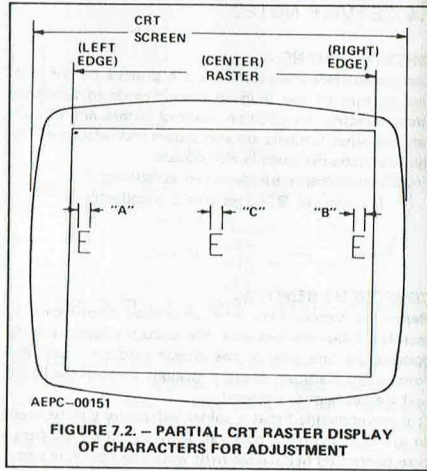

FIGURE 7.2. — PARTIAL CRT RASTER DISPLAY OF CHARACTERS FOR ADJUSTMENT
Step 6. (Refer to Figure 7.2.) Observe the extreme left-hand edge characters (designated "A" in Figure 7.2). Its width should be equal to the width of the right-hand edge characters (designated "B" in Figure 7.2). If character "A" is wider than character "B", the copper sleeve is extending out too far. If "A" is narrower than "B", the copper sleeve should be pulled out further. In any event, the copper sleeve may have to be repositioned by trial and error if the 0.125-inch dimension does not provide desired linearity. Continue until the width of character "A" is equal to the width of character "B".